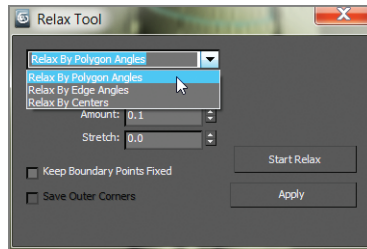

FIGURE 11.13 Set the drop-down menu to Relax By Polygon Angles.
6. Click the Settings box next to the Start Relax button in the Pelt Map dialog box. The Relax Tool dialog box opens. Change the drop-down option to Relax By Polygon Angles, as shown in Figure 11.13.